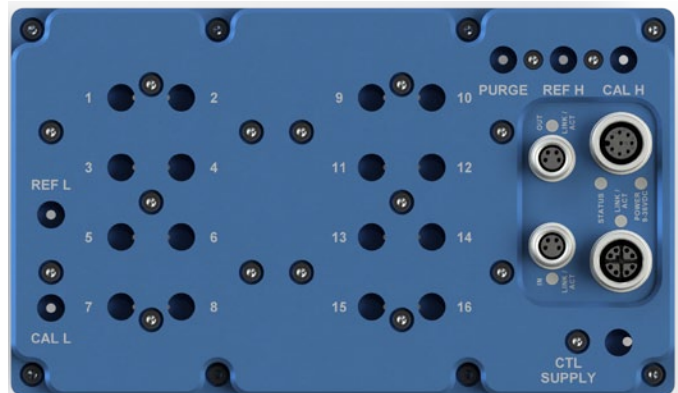

FIGURE 2.2 - DSA5000 DUAL RANGE 16DR TOP VIEW
The DSA5000 Dual Range 16DR module is available as a dual pressure range module, offering eight (8) channels of one pressure range and eight (8) channels of a different pressure range. Like a standard DSA5000, each group of eight (8) transducers share a common calibration valve and a common reference manifold. However, in dual range modules the reference manifolds and the calibration valves are not tied together internally, and a separate reference and calibration port are provided on the top of the module for each range. These ports are labeled CAL H and REF H (high, channels 9-16), and CAL L and REF L (low, channels 1-8). Standard configuration will place the lower pressure range in the "low" side, channels 1-8. This can be altered at the customer's request. Figure 2.2 depicts the top panel of a DSA5000 Dual Range 16DR module.